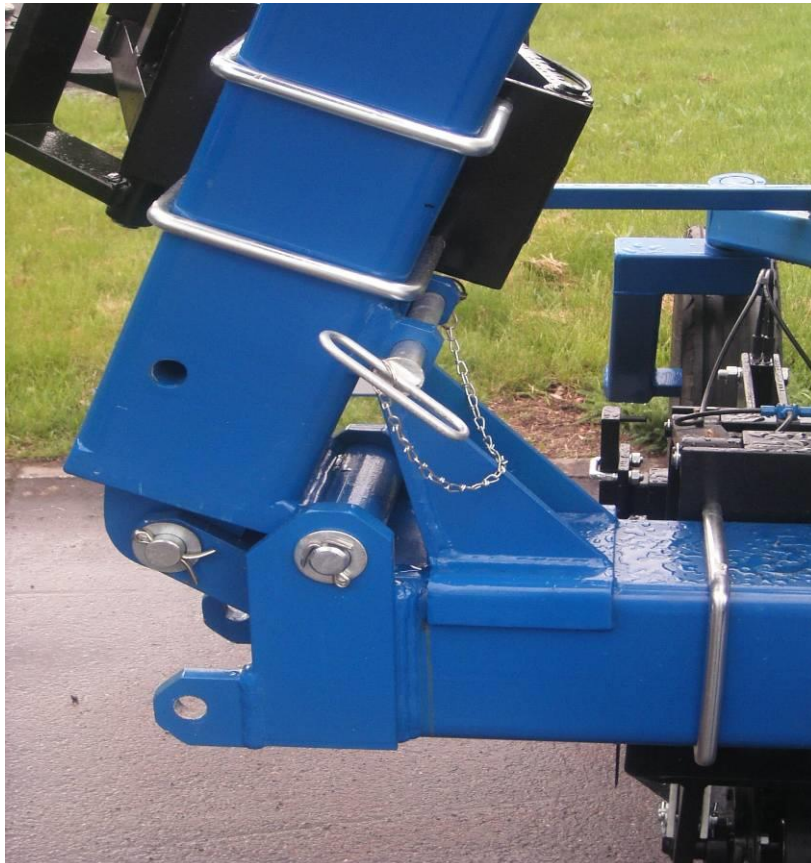

Fig. 4 Arm Secured with Pin in Transport Position
2. Remove the securing pins of the folded arms / Fig. 4 /